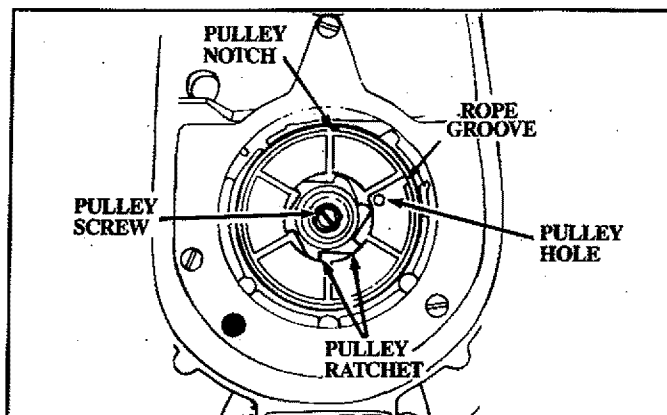

Figure 27
10. Remove screw and washer from the starter pulley very carefully. Rotate the pulley clockwise ➡ until no tension is felt and carefully lift the pulley out of the fan housing. Figure 27. Remove old rope.
17. Carefully replace pulley in the housing. Be sure the pulley is all the way down. Replace washer and screw and tighten. Figures 27 & 28.